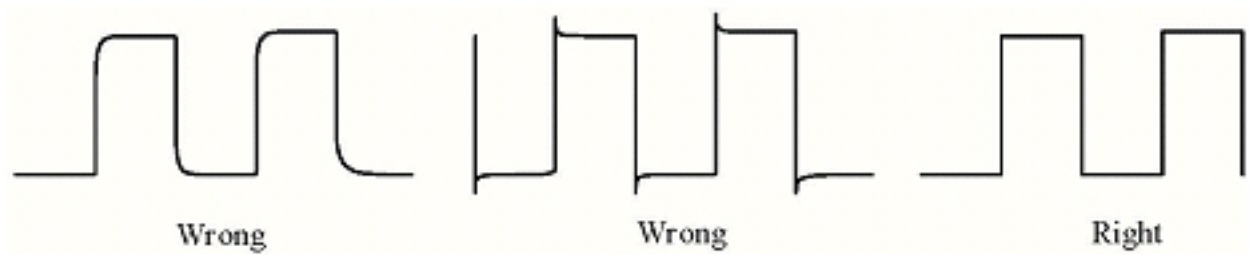

Figure L1.1
- (iv) With an adjustment tool, gently adjust the compensation control on the probe while observing the image displayed on the screen. Continue to adjust the probe until the square wave has "as flat a top as possible", as indicated in the far right of Fig. L1.1.